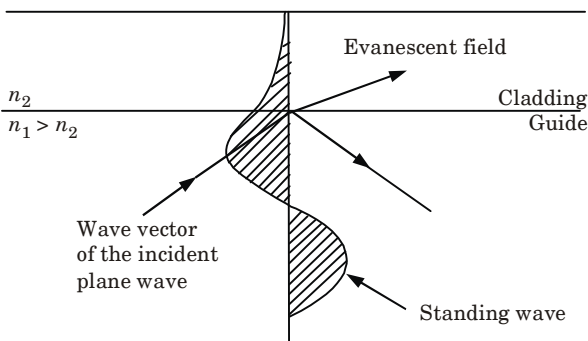

Fig. 1.16.1. The exponentially decaying evanescent field in the cladding of the optical waveguide.
6. Fig. 1.16.1 shows a diagrammatic representation of the evanescent field.